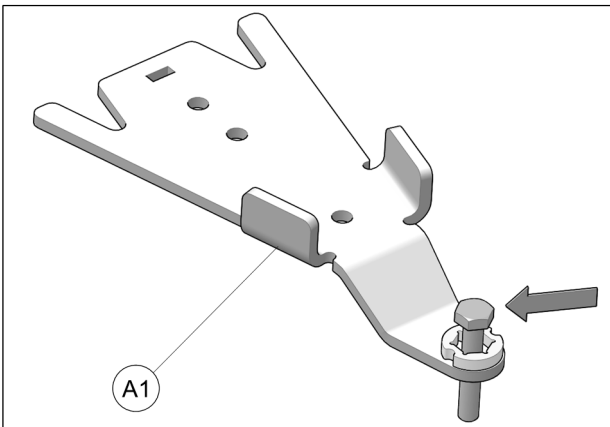

Fig. 14
4. Insert bolt in front anchor brackets (A1) as shown in Fig. 14